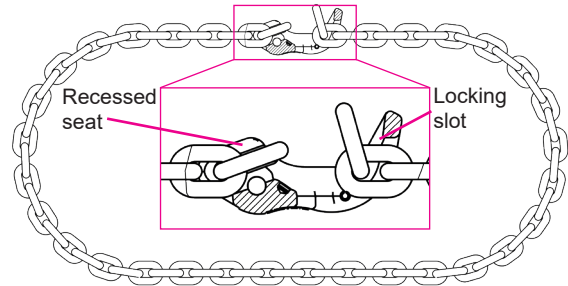

Fig. 9: Assembly casket chain
- For casket chains the shortest shortening possibility is as follows (Fig. 9):